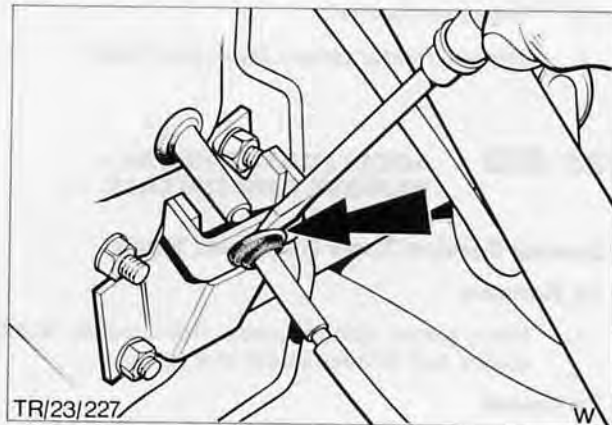

Fig. 84. Disconnecting outer cable from mounting bracket
- From under hood disconnect outer cable complete with retaining grommet from mounting bracket. To disconnect prise out with a screwdriver, Fig. 84.